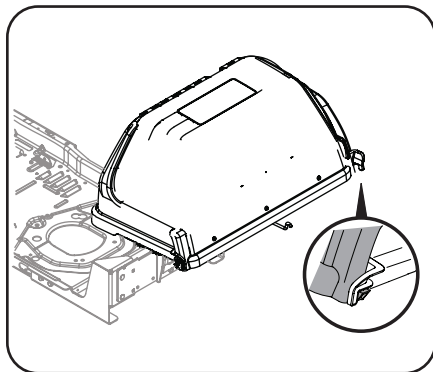

Figure 4-9
5. Swing the upper grass catcher cover down to close the attachment. Push in on the rear right-side and rear left-side tabs and lock them into place under the notches on each side. Ensure a secure, snug fit. See Figure 4-9.